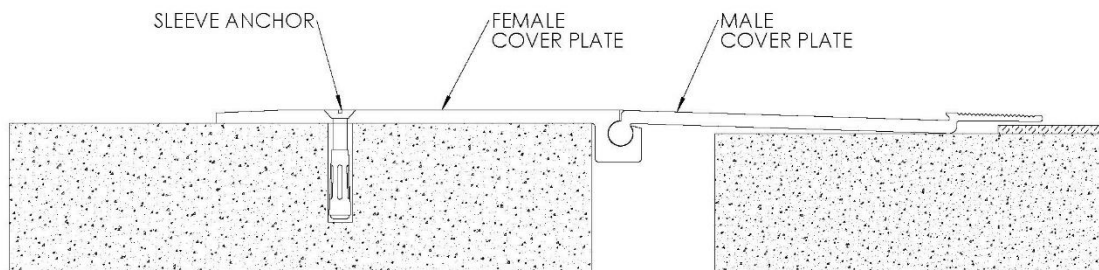

FIGURE 3
3. Install the cover plate by marking the hole locations in the female cover plate on both ends and drilling a $3/8$ " hole into the concrete and attaching the cover plate with the supplied $3/8$ " sleeve anchor. Follow anchor manufacturer's recommendations for proper anchor installation. Once the two end anchors are installed, the rest of the hole locations can be drilled and attached with the sleeve anchors. **See Figure 3**